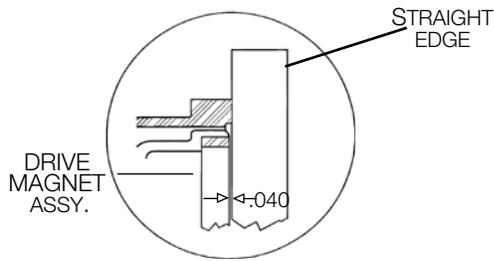
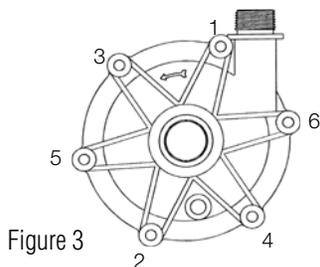

Figure 2
Figure 3
2. Remove screws and washers (items 9A, 9B & 9C) from impeller housing (item 1) and remove pump assembly from motor adapter (item 5).
4. Install the motor adapter (item 5) onto the motor with the access holes top and bottom. Secure with supplied hardware (items 10A, 10B, and 10C). On 63 frame pumps, from the motor side, insert the supplied gray spacer into the base of the motor adapter and secure both to the motor.
5. For 63 frame pumps - Screw the cone point drive magnet assembly setscrew (item 6B) in so that it protrudes slightly into the drive bore. Align the protruding setscrew point with the key slot on the shaft adapter and slide the drive magnet assembly (item 6) on. Adjust the drive magnet assembly (item 6) so that it is 1.016 mm (.040 +/- .005) below the face of the motor adapter (see figure 2) and tighten both setscrews with a 5/32" Allen wrench to 7.9 N.m (70 in. lbs.).
For 71 and 80 frame - Align the cone point set screw (item 6B) on the motor shaft and slide the drive magnet assembly (item 6) onto the motor shaft. Adjust the drive so that it is 1.016 mm (.040 + or -.005) below the face of the motor adapter (see figure 2). Tighten both setscrews with a 5/32" Allen wrench to 7.9 N-m (70 in-lbs.).
6. Place the impeller assembly (comprised of items 2 and 3) in barrier (item 4). Grasping the barrier at opposite bolt tabs, carefully lower the barrier assembly into the motor adapter/drive assembly. Line up the tabs of the barrier between the tabs on the motor adapter to avoid pinching fingers. Once seated, rotate the barrier until bolt holes line up.
7. Install the o-ring (item 7) on the barrier. Lubricate the o-ring with a compatible lubricant to facilitate installation.
8. Place the impeller housing (item 1) on the barrier being careful not to dislodge the o-ring.
9. Align mounting holes and install 6 mounting screws and washers (items 9A, 9B & 9C) from hardware package. Hand-tighten screws using pattern shown in Figure 3.
1. 56C pumps - Insert the barrier (item 4) into the motor adapter (item 5). Align the barrier tabs with the motor adapter bolt holes and press/pop into place. Install the impeller assembly (items 2 and 3) into the barrier. Lubricate the housing o-ring (item 7) with a chemically compatible lubricant and install. Carefully place the impeller housing (item 1) onto the barrier, lining up the discharge with a set screw access hole (top) in the motor adapter. Be careful not to dislodge the o-ring. Install the six bolts and washers (items 9A, 9B, and 9C) and hand tighten the screws following the pattern shown in figure 3.